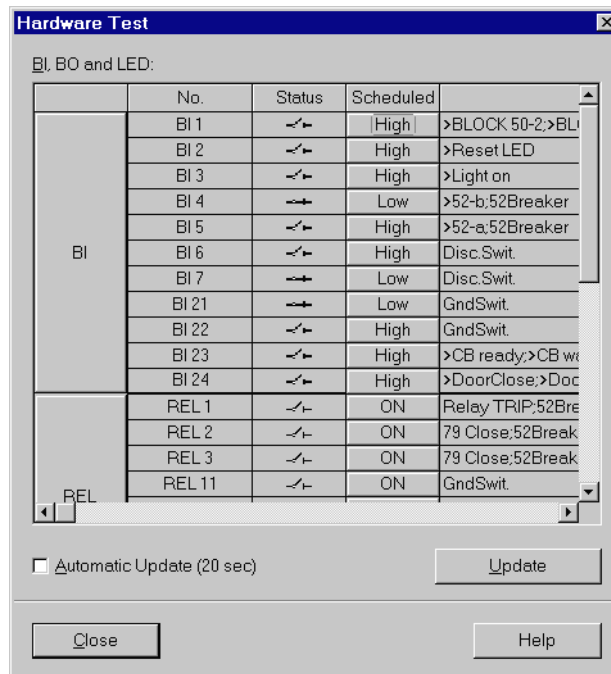

Figure 8-10 Dialog Box for Hardware Test
- ☐ Double-click in the list view on **Hardware Test**. The dialog box of the same name opens (see Figure 8-10).